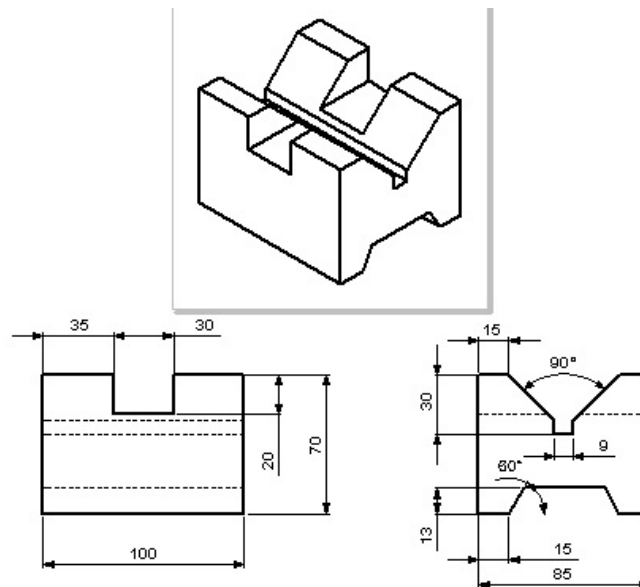

Figure 1. V-Block
18. Click **OK**  to accept default setting to create the wheel model shown in Figure 1.
In order to demonstrate how to create extruded features step by step, a V-Block model is used in this tutorial. Its geometry and dimensions are given in Figure. 1.